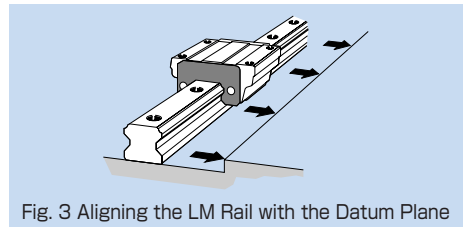

Fig. 3 Aligning the LM Rail with the Datum Plane
- ② Gently place the LM rail onto the base, and temporarily secure the bolts to the extent that the LM rail lightly contacts the mounting surface (align the line-marked side of the LM rail with the side datum plane of the base) (Fig. 3).